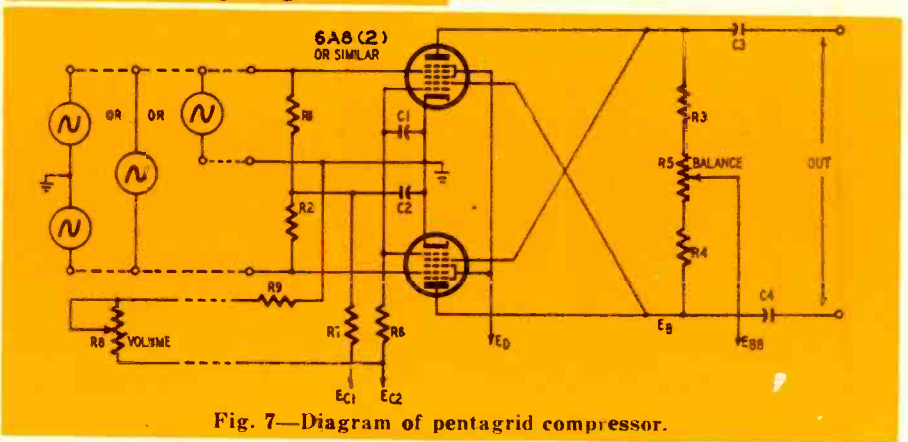

Fig. 7—Diagram of pentagrid compressor.
6. Pentagrid compressor¹ (Fig. 7)
In Fig. 7, R5 is a balancing adjustment. Controls carrying both d.c. and signal should be avoided as possible noise sources. Balancing might be done in next stage. Typical values of components for Fig. 7 are: